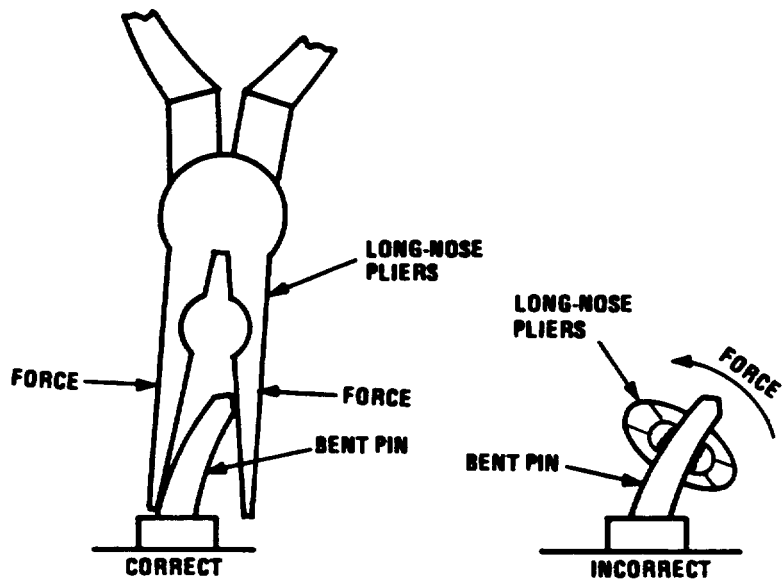

Figure 3-5. Pin Straightening Procedure.
a. Always inspect frame connectors for bent or broken pins before installing module. To straighten bent pins, use needle-nose or long-nose pliers with smooth jaws. Position jaws so that whole pin is straightened simultaneously (see fig. 3-5).